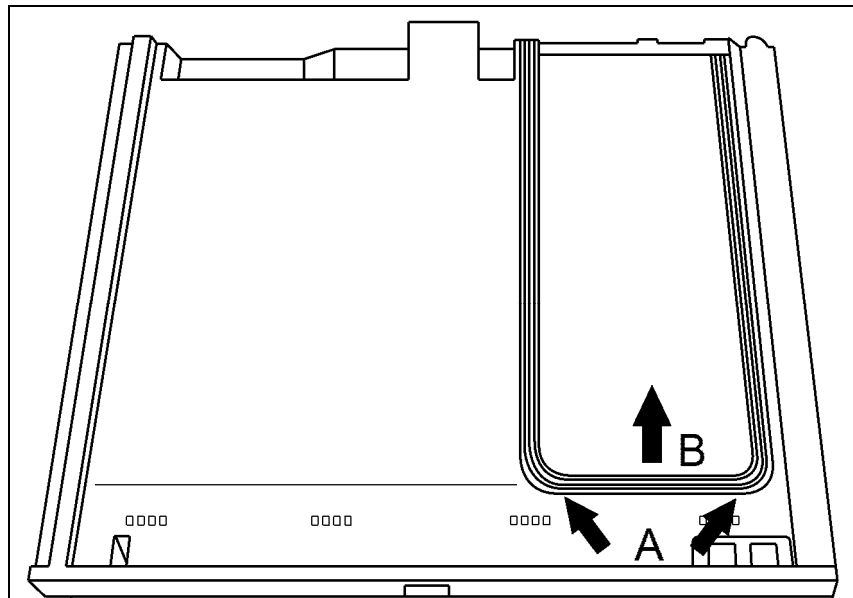

Figure 010-13: Strain Relief Cover
2. Unclip the strain relief cover at the front; see Figure 010-13, Item A.
3. Tilt the cover up and remove it; see Figure 010-13, Item B.